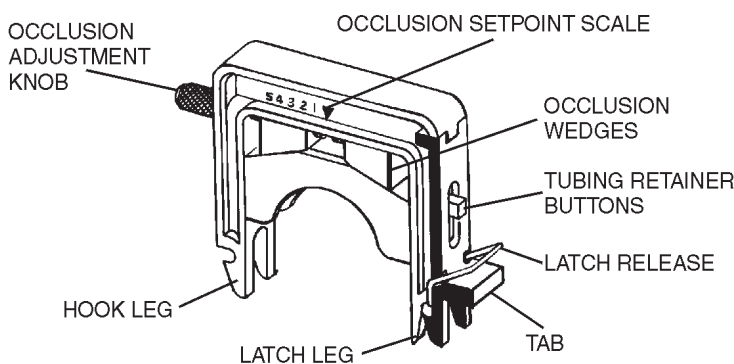

FIGURE 5 CARTRIDGE ASSEMBLY
1. Turn the Occlusion Adjustment Knob (see Figure 5) counterclockwise to maximum open. This step is not necessary when the occlusion is set at the factory setting or if the occlusion has already been set appropriately during previous pumping.
5. Swing the Cartridge with the tubing over the rotor and push down on the Tab (see Figure 5) until the Latch snaps closed (see Figure 7E). **Note:** Depress the Cartridge as required in the location indicated in Figure 7E to facilitate latching and unlatching.
2. Push down on latch side of Cartridge (see Figure 7E) and pull Latch Leg outward to unhook from rod. The Latch Release (see Figure 5) can be depressed to aid in this process as desired.
(4) Bi-Directional Pumping